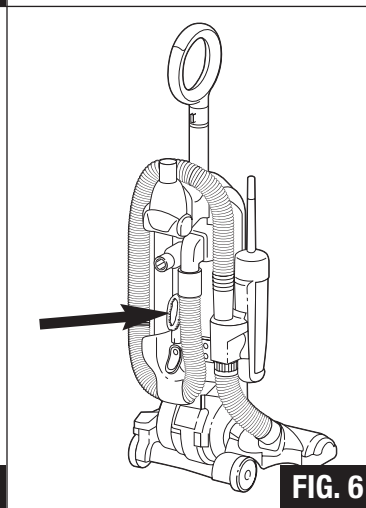

FIG. 6
Step 9: Store the dusting brush on its holder (FIG. 6).